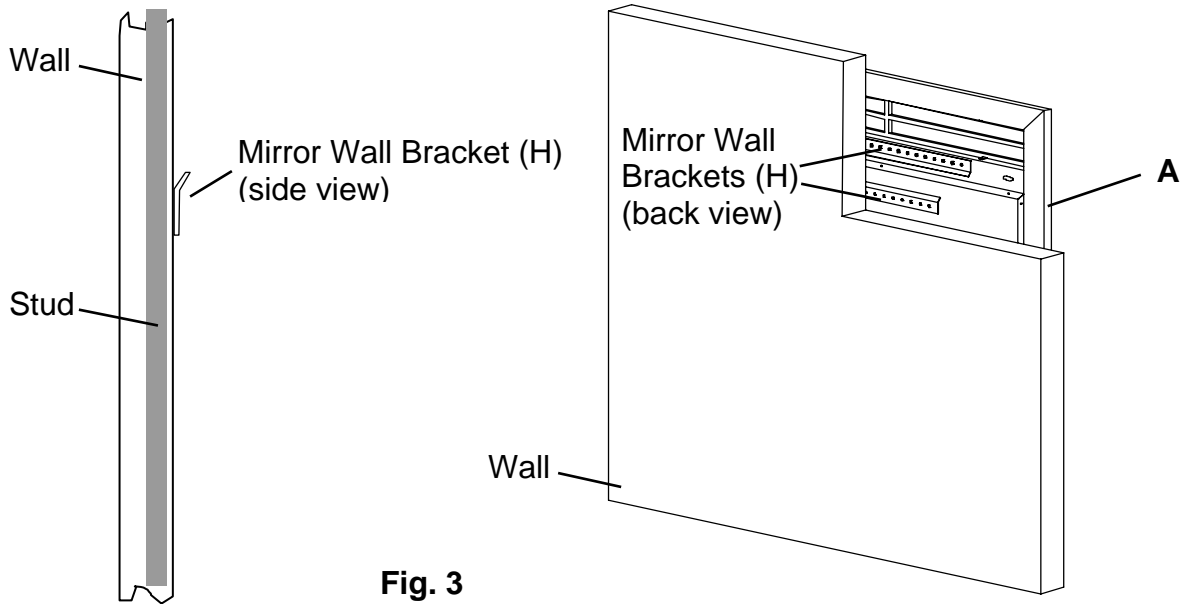

Fig. 3
3. NOTE: The Mirror Wall Bracket (H) angles out at the top. When you hang your Mirror, the bracket that is attached to the back of the Mirror fits over the angled part of the Mirror Wall Bracket (H). See Figure 3.